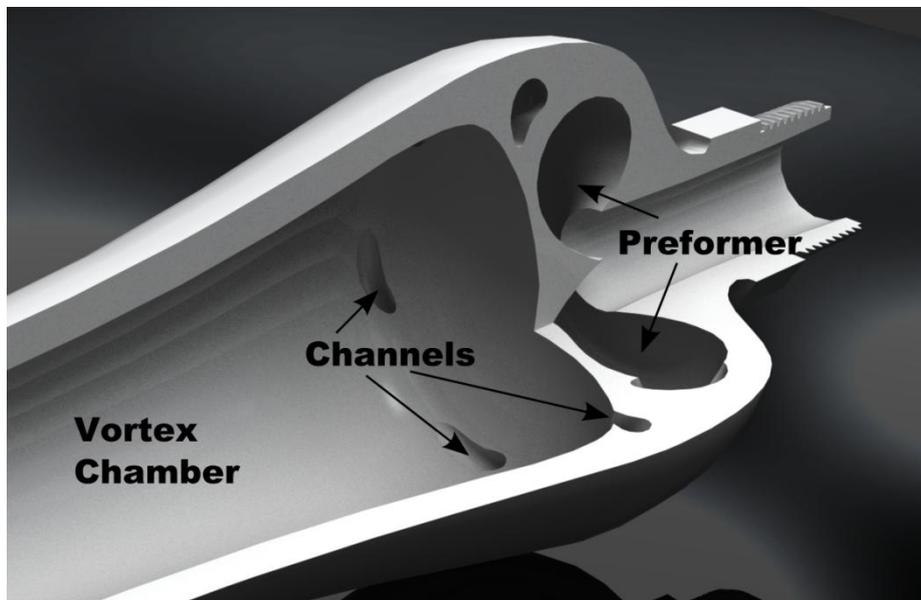
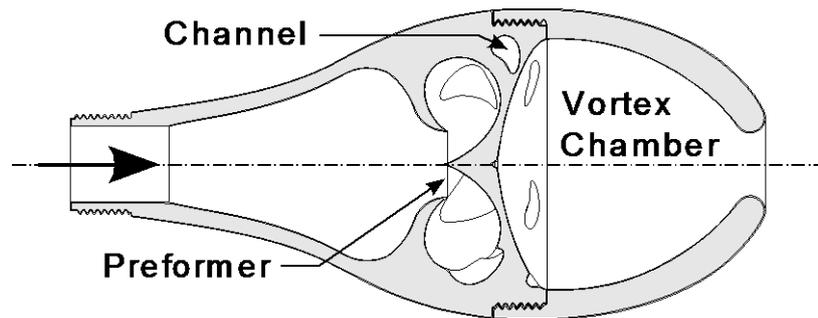

Figure 1: The Watreco vortex generator with trumpet-shaped vortex chamber.
Figure 2: Cross section of vortex generator with egg-shaped vortex chamber.
As illustrated in Figure 1 and Figure 2, the vortex generator shapes the fluid flow in three stages:
3. **Vortex chamber.** In the vortex chamber, the vortices from the channels are wound together, similar to how a rope is spun together from a set of threads. A strong and stable vortex flow is formed inside the vortex chamber, causing a strongly reduced pressure along the vortex axis. Depending on the application, the vortex chamber can have different shapes. A trumpet shape (Figure 1) produces a well-defined vortex with a smooth transition to downstream piping. An egg shape (Figure 2) with a narrow outlet causes an extensive spread of the fluid which is useful for example in a spraying application or when a large volume of water needs stirring.